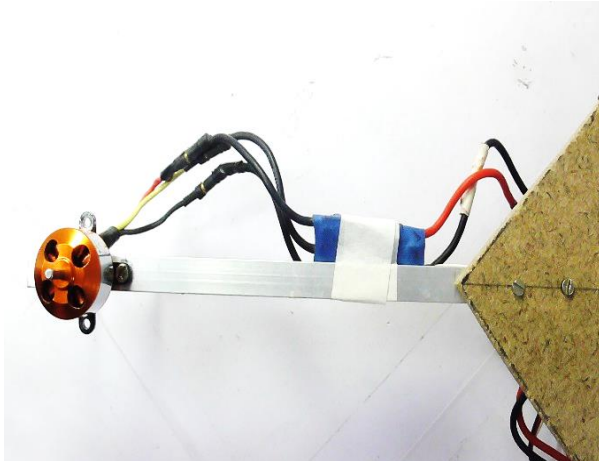

Fig.3.1
- Now, connect the motors and ESCs. Refer Fig.3.1.